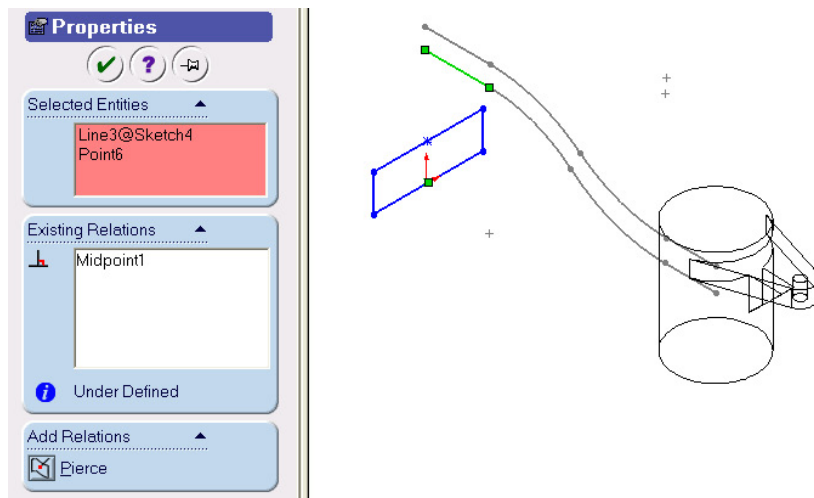

Figure 10 Pierce Constraints between Profile and the Path
19. Select the sweep path, and the bottom point, and apply **Pierce**  constraint as shown in Figure 10.